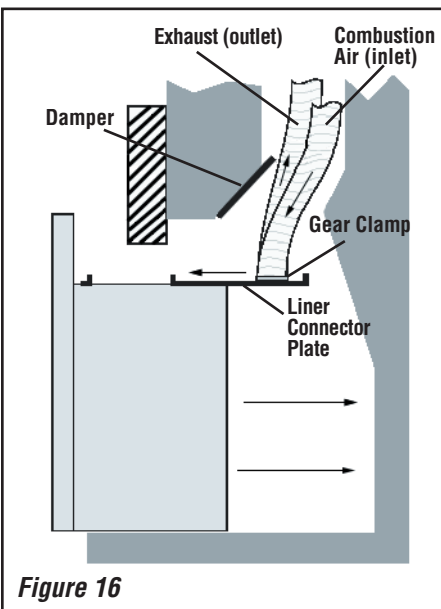

Figure 16
- 8) Slide the liner connector plate all the way forward and secure into place with a screw (provided) as shown in Figure 16 & 17.